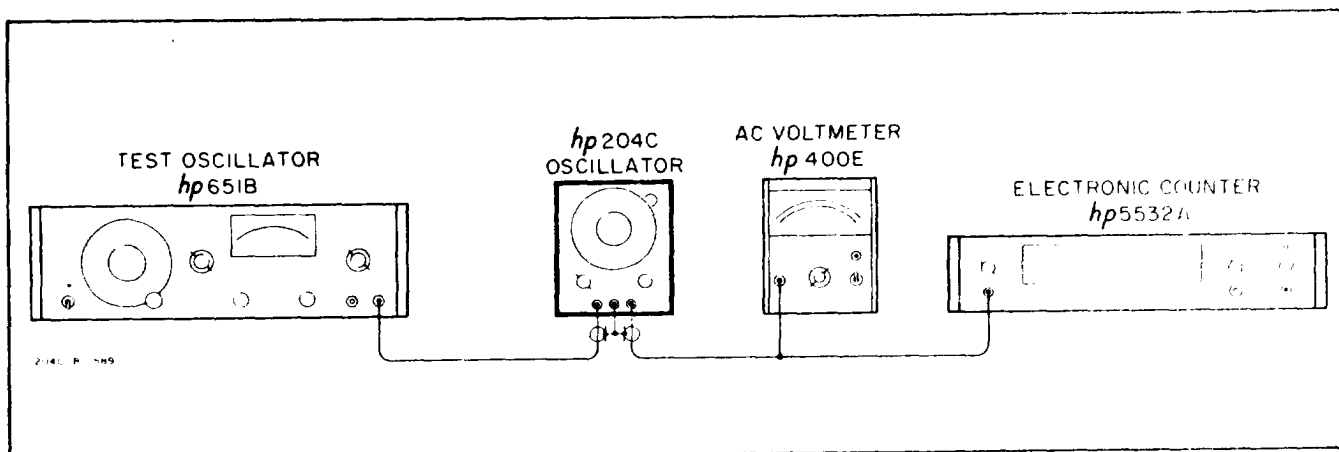

Figure 5-4. Sync Input Check
- c. Without changing the controls set in steps a and b, connect the equipment as shown in Figure 5-4.